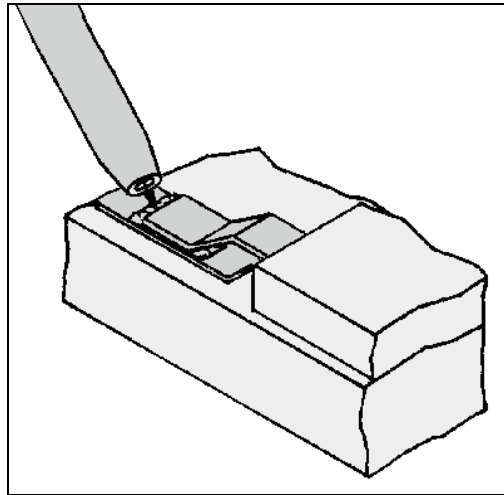

Figure 3-2.—Hot air jet conformal coating removal.
**HOT-AIR JET REMOVAL.**—In principle, the hot-air jet method of coating removal uses controlled, temperature-regulated air to soften or break down the coating, as shown in figure 3-2. By controlling the temperature, flow rate, and shape of the jet, you may remove coatings from almost any workpiece configuration without causing any damage. When you use the hot-air jet, you do not allow it to